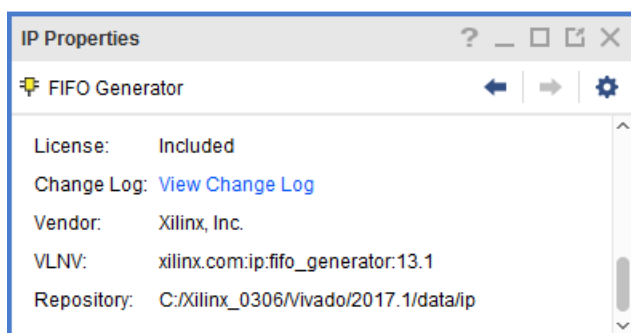

Figure 2-14: Change Log for More info link
- In the Source Files Properties view, select the IP, then scroll down and select **View Change Log**. You can select the view full log link to open the full change log, as shown in Figure 2-14.